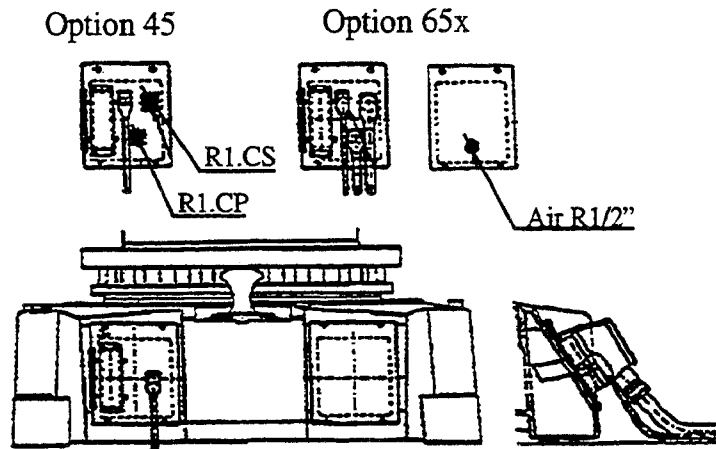
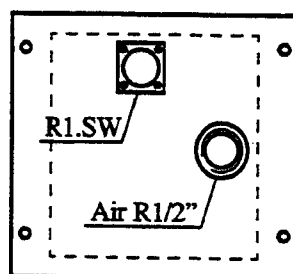
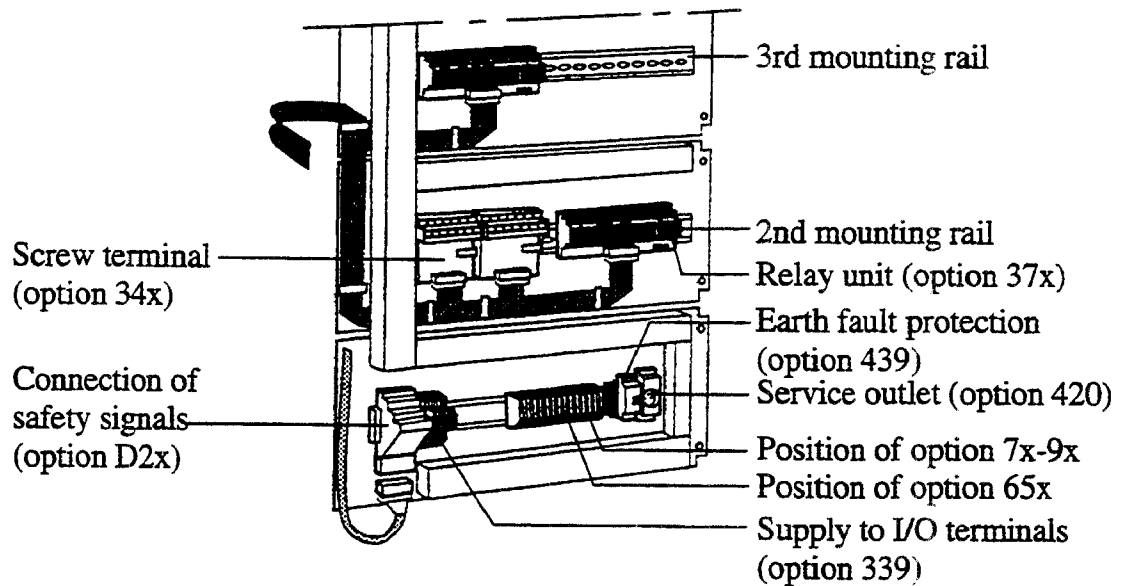

Figure 32 Connection of signals to the base.
Figure 34 Connection of position switch signals to the base.
Figure 40 The terminal units are mounted on the rear wall inside the cabinet
- 45 The signals are connected directly to the robot base to one Burndy 12-pin UTG 014-12P (R1.CP), and one Burndy 23-pin UTG 014-23P (R1.CS) connector (see Figure 32). The cables from the manipulator base are not supplied.
The signals are connected to the controller (see Figure 40), by a separate cable from the manipulator base, R1.SW, (see Figure 34 and Figure 32).